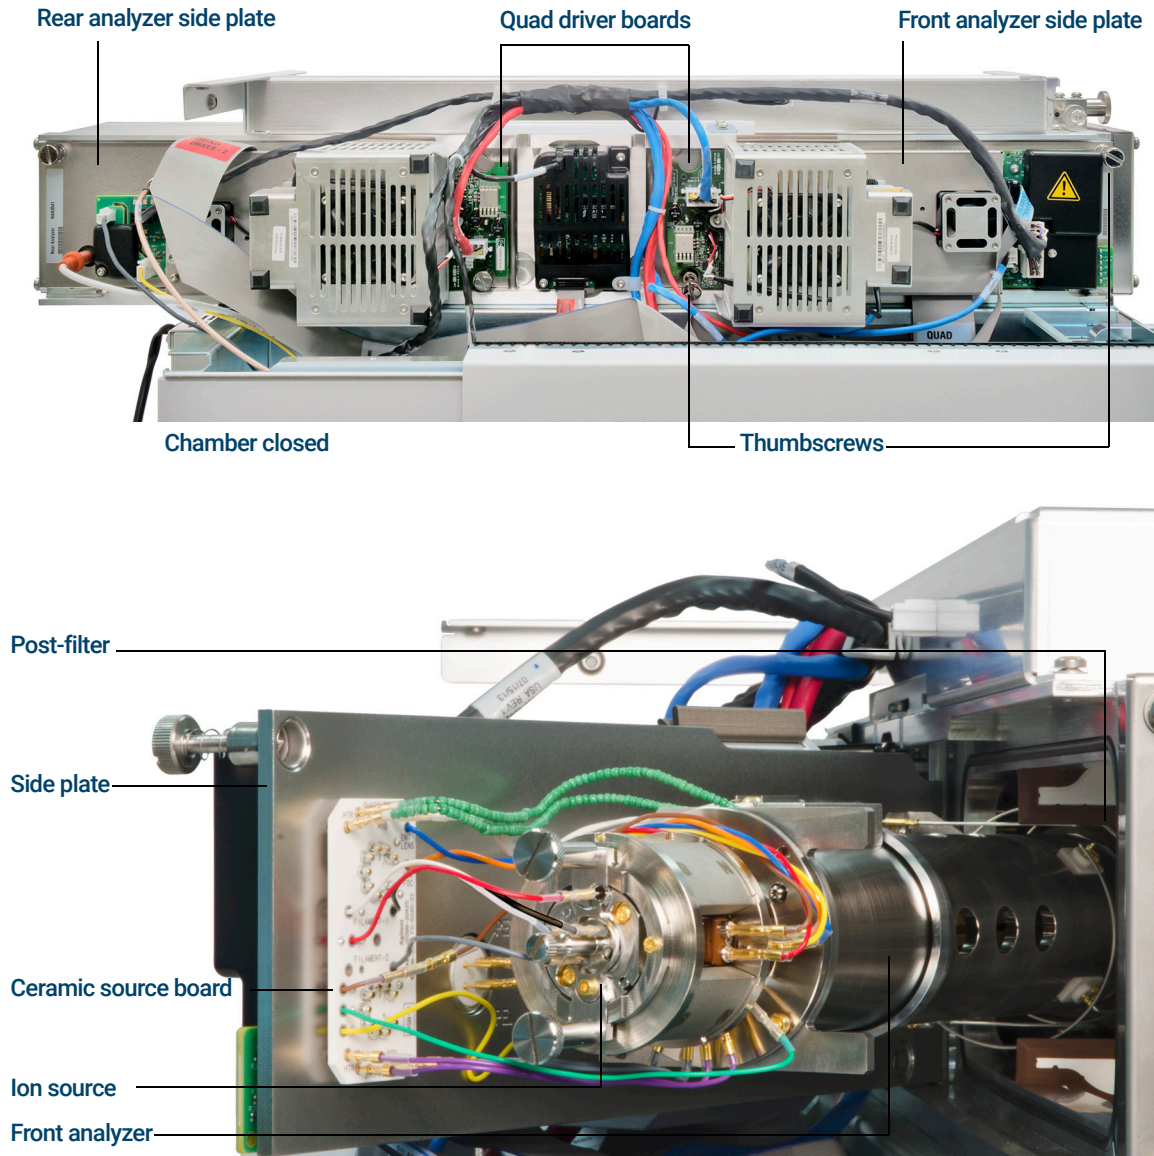

Figure 47. The front analyzer chamber on a 7010 MS
- 3 Loosen the front analyzer side plate thumbscrews if they are fastened. (See Figure 47 on page 158.)
4 Gently swing the side plate out. (See Figure 47 on page 158.)